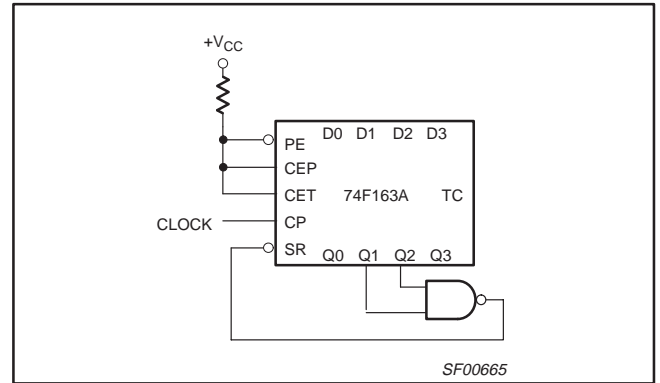
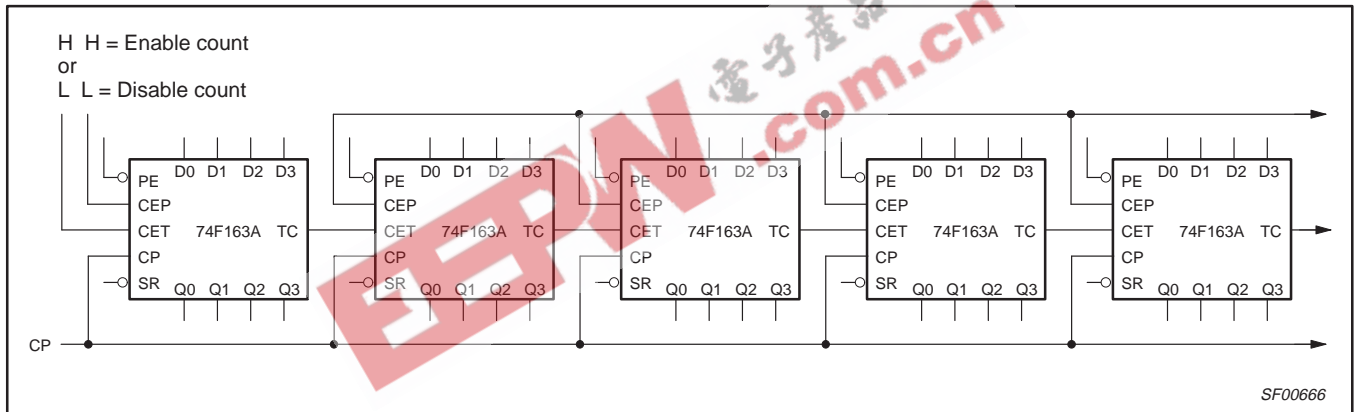

Figure 1. Maximum count modifying scheme
Figure 2. Synchronous multistage counting scheme
A Low level at the Master Reset (\overline{MR}) input sets all the four outputs of the flip-flops (Q0 – Q3) in 74F161A to Low levels, regardless of the levels at CP, \overline{PE} , CET and CEP inputs (thus providing an asynchronous clear function). For the 74F163A, the clear function is synchronous. A Low level at the Synchronous Reset (\overline{SR}) input sets all four outputs of the flip-flops (Q0 – Q3) to Low levels after the next positive-going transition on the clock (CP) input (provided that the setup and hold time requirements for \overline{SR} are met). This action occurs regardless of the levels at \overline{PE} , CET, and CEP inputs. The synchronous reset feature enables the designer to modify the maximum count with only one external NAND gate (see Figure 1). The carry look-ahead simplifies serial cascading of the counters. Both Count Enable (CEP and CET) inputs must be High to count. The CET input is fed forward to enable the TC output. The TC output thus enabled will produce a High output pulse of a duration approximately equal to the High level output of Q0. This pulse can be used to enable the next cascaded stage (see Figure 2). The TC output is subjected to decoding spikes due to internal race conditions. Therefore, it is not recommended for use as clock or asynchronous reset for flip-flops, registers, or counters.